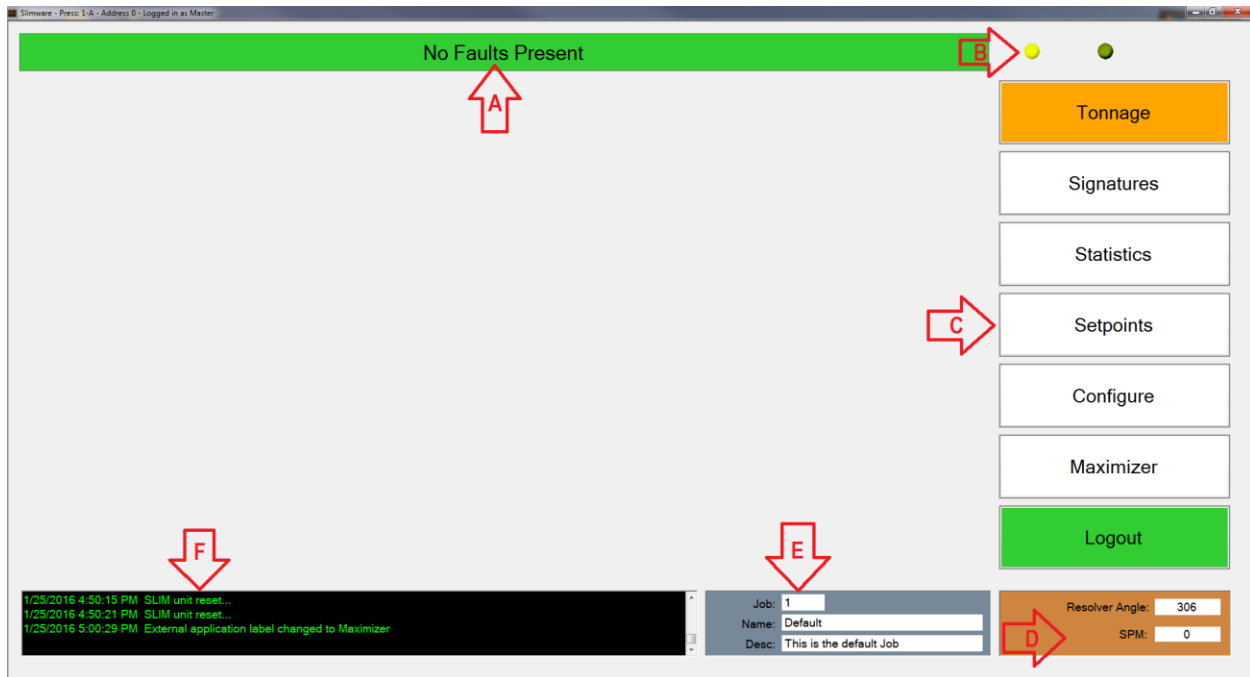

Figure 4-1 – SlimWare Main Window
- **Status Bar (A)** – Displays the current status of the SLIM unit. If an alarm is detected, the status bar will flash red and white and display the highest level alarm. To reset an alarm, a user can simply click on this bar while alarmed.
- **Indicator Lights (B)** – In the top right-hand of the SlimWare windows are two (2) yellow LED's. These LED's mirror the transmit and receive LED's status located on the SLIM unit. If these LED's are idle, this is due to a communication error.
- **Navigation (C)** – These buttons allow the user to navigate to the various pages throughout SlimWare.
- **External Application**– This button will call an external program (such as a SCADA program). This program is declared on the configuration page. In figure 4-1, the configured external program is the “Maximizer”, Toledo Integrated Systems’ proprietary automation program.
- **Press Angle (D)** – Displays the current angle of the press if a resolver, encoder, or gray code input is used.
- **SPM – Strokes Per Minute (D)** – Displays the speed at which the press is running.
- **Job Number (E)** – Displays the current job number loaded. If enabled, a user can click on the job number box and load or create a new job.
- **Job Name (E)** – Displays the current job name loaded. If enabled, a user can click on the job name box and load or create a new job.
- **Job Description (E)** – Displays the current job description loaded. If enabled, a user can click on the job name box and load or create a new job.
- **Historical Data Log (F)** – This displays all pertinent information regarding the SLIM unit and any changes or alarms that occur. This log can be saved to a log file located in the user’s storage folder if “Data and Alarm Logging” is enabled from the configure page.